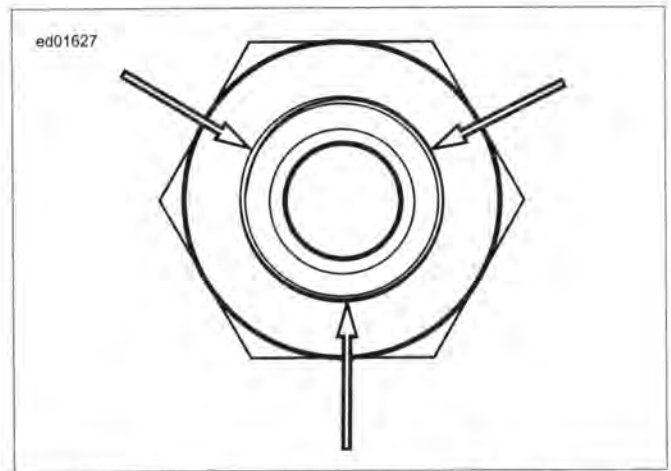

Figure 7-59. Three Dots of LOCTITE 246 MEDIUM STRENGTH/HIGH TEMPERATURE THREADLOCKER (blue)
3. See Figure 7-59. Apply three equally spaced dots of LOCTITE 246 MEDIUM STRENGTH/HIGH TEMPERATURE THREADLOCKER (blue) on threads.